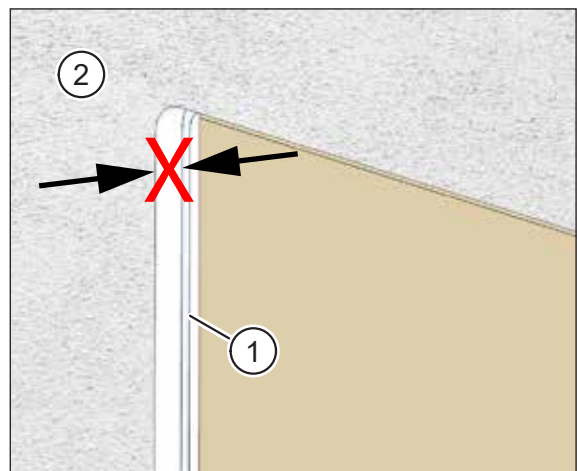

Fig. 33: Plaster protrudes over plastering trim
- The plaster (item 2 in Fig. 33) protrudes above the plastering trim (item 1 in Fig. 33).